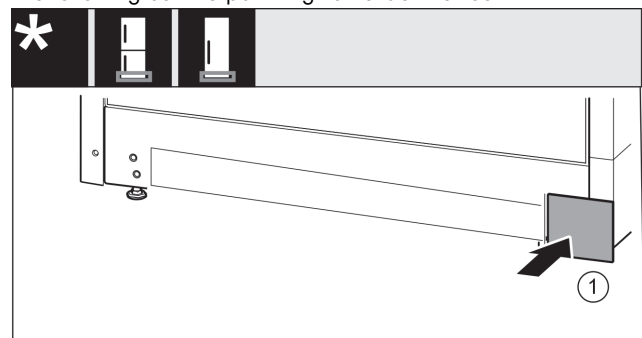

Fig. 21
- Re-attach the cover Fig. 21 (1) to the other side.